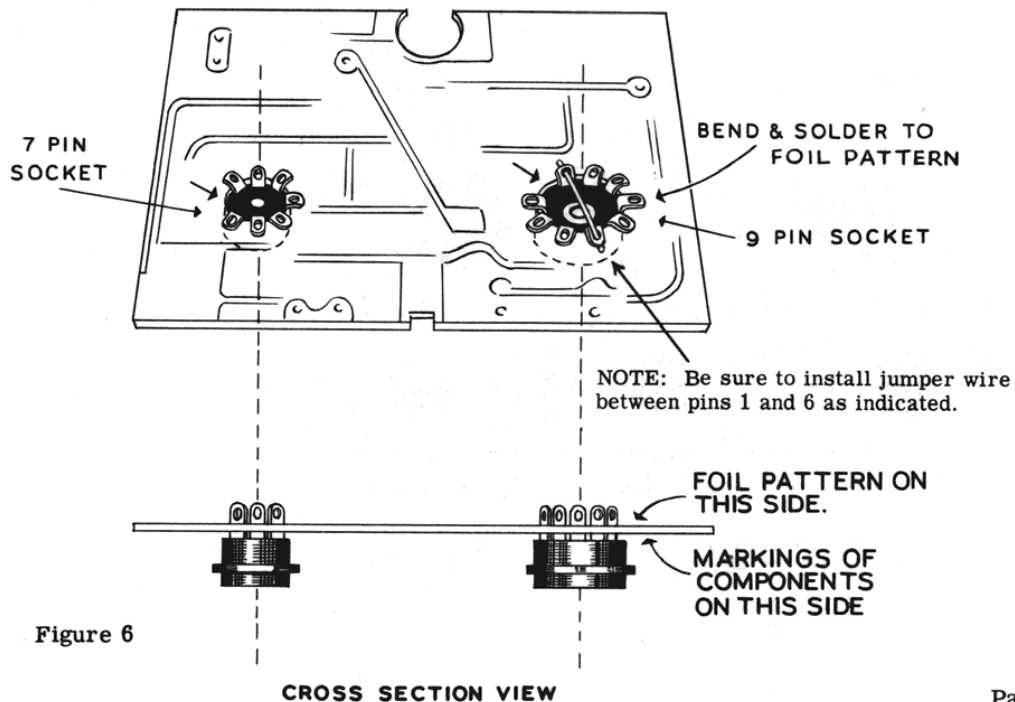

Figure 6
- () Orient the spacing between socket pins 1 and 7 so that it corresponds with the placement shown in Figure 6. With a low wattage small tipped soldering iron, using only rosin core type solder, begin soldering the socket pins to the copper foil terminals. See notes on printed circuit soldering in the INTRODUCTION on Page 3. Note that pin 6 of the 7-pin socket has no circuit connection and soldering only serves to increase mechanical mounting strength.